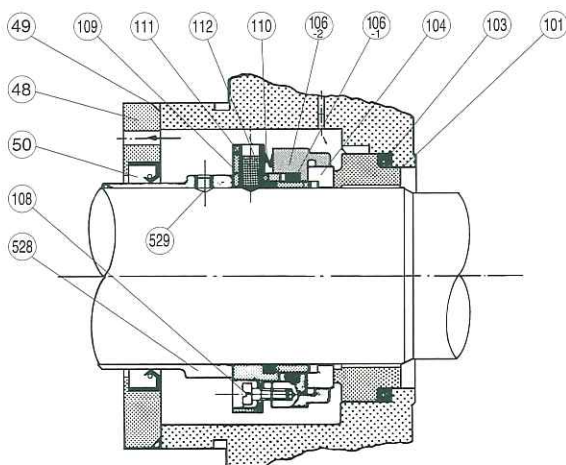

Fig. 26 Cross-sectional view of mechanical seal (100)
A new balance type single seal (100) is incorporated into the screw compressor. A combination of tungsten carbide and carbon graphite is used for the frictional surface of the seal and an O-ring is provided for packing. As shown in Fig. 26, the balance type mechanical seal functions well under a wide range of conditions. An oil seal (50) is fitted to the inside of the seal to act as an oil retainer. Because the frictional portion of the seal is subject to wear due to the rapid rotation of the shaft, a sleeve (528) is provided on Models 2016LSC so that the friction portion can be replaced.